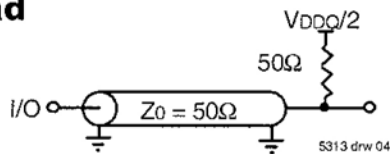

Figure 1. AC Test Load
| AC Test Load                   | See Figure 1 |
- 4 These parameters are guaranteed with the AC load (Figure 1) by device characterization. They are not production tested.